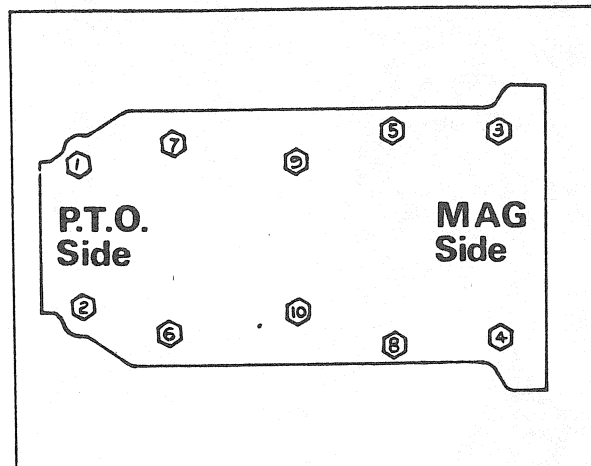

FIGURE 21
- Follow the sequence illustrated to unscrew the ten (10) nuts on crankcase (fig. 21).